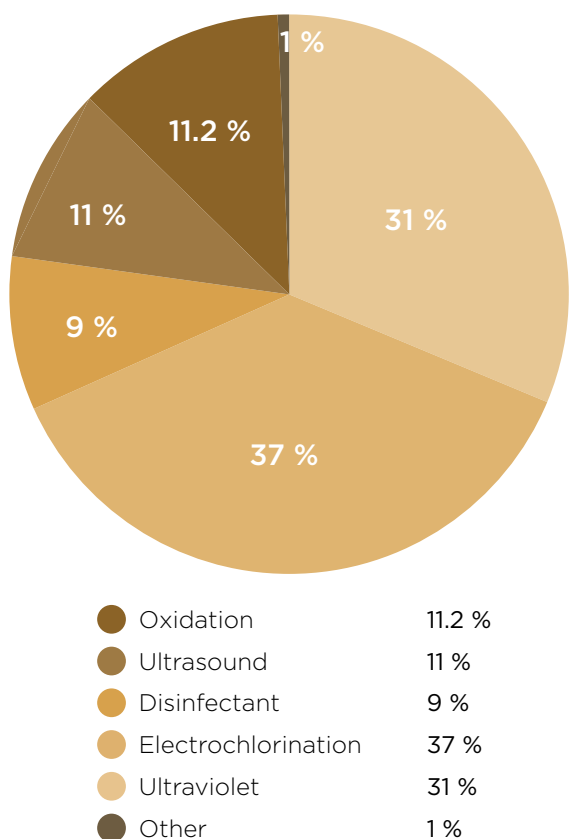

Figure 1: Breakdown of BWMS technologies installed
Up until October 2019, close to 10,000 vessels—nearly 10% of the global vessel fleet—has been fitted with a ballast water management (BWM) system. According to Clarkson’s World Fleet Register, the most common technologies for BWM are ultraviolet (UV)-based systems and electrochlorination (EC) systems. Figure 1 shows the different technologies installed on vessels.